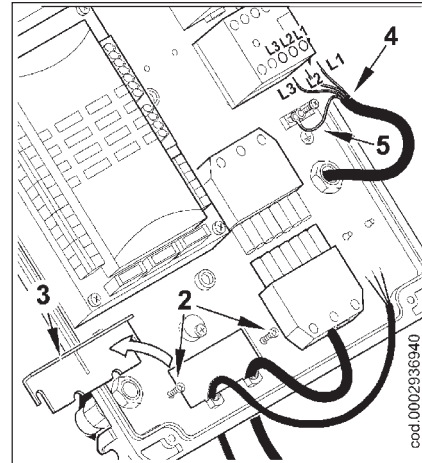

Fig. 2
- Loosen the screws (2) and after removing the cable clamp plate (3), make the 7 pole plug and modulation control cable come through the hole (fig. 2). Connect the power supply cables (4) to the radio control switch, fix the earth cable (5) and tighten the cable gland.